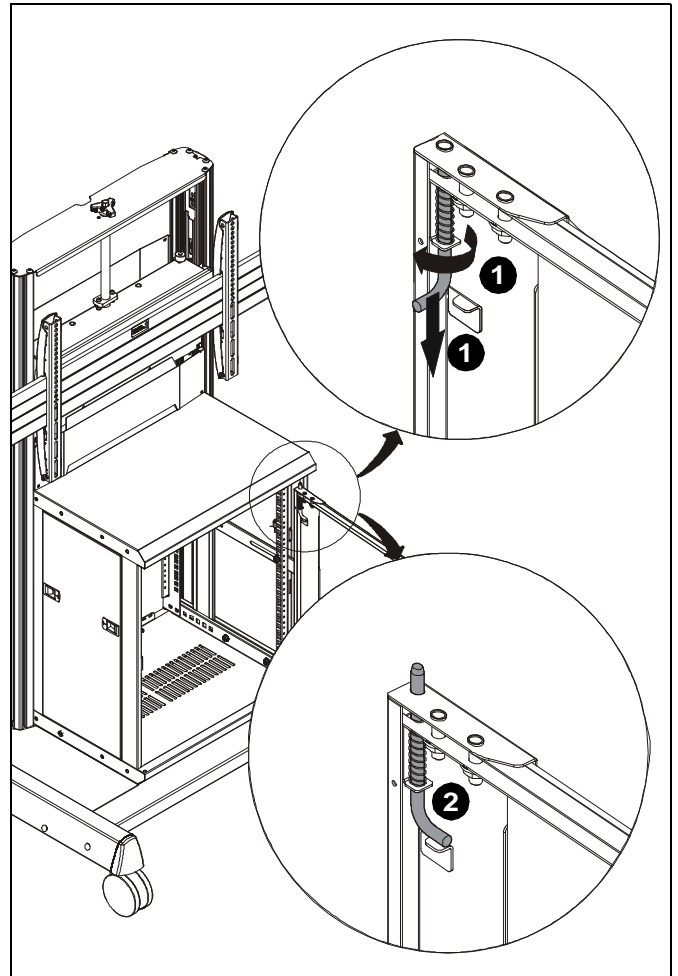

Figure 26
1. Turn upper door pin to release from locking tab and pull down to release door from rack and lift door from rack frame. (See Figure 26)
2. Release upper pin and turn it back to secure it under the locking tab. (See Figure 26)